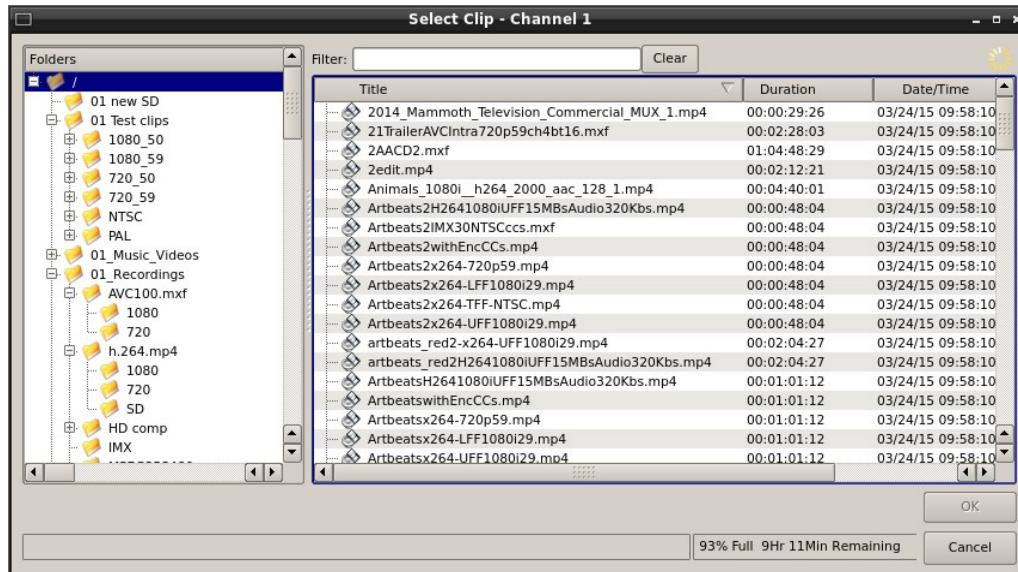

Figure 13 – Channel-1 Select Clip Window in “Open” Mode
1. Select **FILE >OPEN** from the Transport Window of Channel 1 or 2. The Select Clip window Figure 13 – Channel-1 Select Clip Window in “Open” Mode appears.
1. Select **FILE >CLIP LIST** from the Main Window. The Clip List window in Figure 13 – Channel-1 Select Clip Window in “Open” Mode appears.